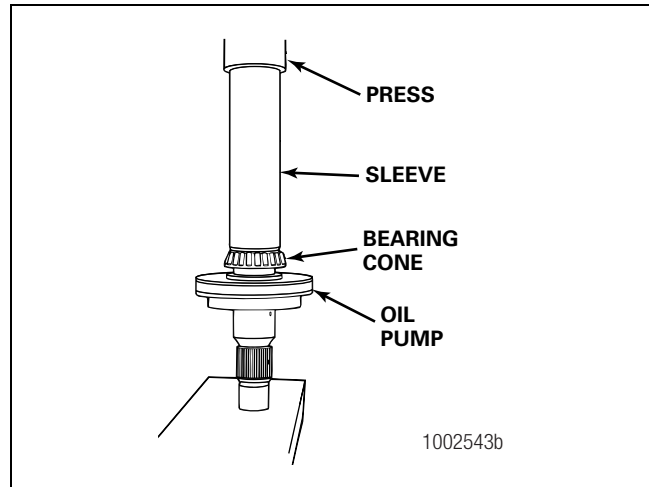

Figure 5.71
- C. Use a press and a sleeve to install the bearing cone onto the input shaft. The cone is correctly installed when the bottom of the cone touches the shoulder on the shaft. Figure 5.71.